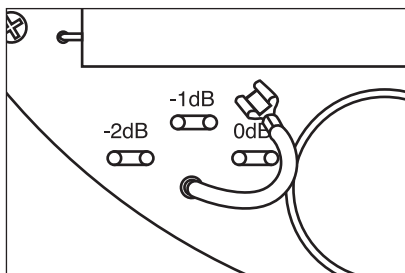

Figure 21 Setting the bass jumper.
12. Setting the bass jumper. Listen to a well-recorded piece of music at the user's favorite listening position. Listen for bass boominess, particularly when the speaker is placed near a corner. Remove the speaker by grasping the tabs and rotating counter-clockwise. Adjust the bass jumper (-1dB, -2dB) accordingly. **(See Figure 21).**